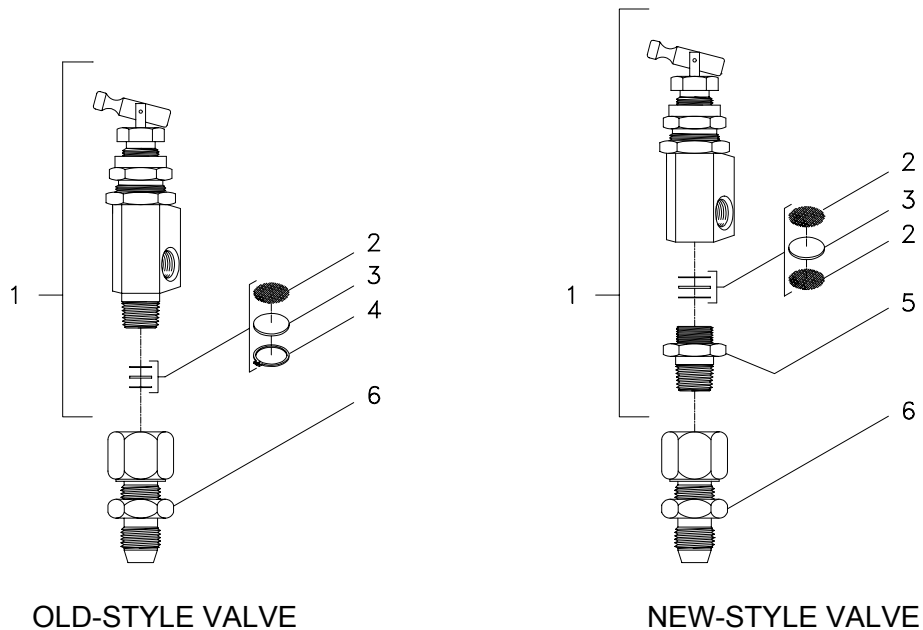

Figure 6-9. Pilot Valve (ALP-V403)
- (1) Ensure replacement valve has been cleaned in accordance with MIL-STD-1330 or other approved NAVSEA cleaning procedure for life support systems.
- (2) Wrap Teflon® tape around inlet threads on adapter end of new plug valve.
- (3) Insert taped end of new plug valve into adapter, and tighten union nut with wrench.
- (4) Pressurize system and leak test valve using NID solution prepared in accordance with paragraph 4.7.3.2. Correct leaks as necessary.
- (5) Complete reentry control report and log.
6.8.2.7 Pilot Valve (ALP-V403). Corrective maintenance for the compressor pilot valve (ALP-V403) consists of removal and replacement of the valve, as well as cleaning or replacement of the filter components. Two versions of this valve are authorized for use with the LWDS, each containing a different type of inlet and filter design. The old-style valve, which is shown on the left in Figure 6-9, features a removable filter screen (2), felt (3), and ring (4) installed in the tip of the valve inlet, which is an integral part of the valve body. The new-style valve features a filter composed of felt (3) sandwiched between two screens (2). The filter is located inside the valve body and held in place with a filter nut (5). Corrective maintenance for the filters must therefore be adapted to the style of valve that is installed on the compressor manifold. While the old-style
valves are still approved for use, they are no longer available from the manufacturer and will be automatically replaced with the new-style valve when ordering. Refer to Figure 6-7 for valve location and to Figure 7-30 for an index of replacement parts for ALP-V403, which is the only valve of its type in the system. The callouts in the following procedure refer to Figure 6-9, which depicts both an old-style and new-style pilot valve removed from the bulkhead connector (6).
- (1) Remove hose adapter from side port in pilot valve (1).
- (2) **For replacement or cleaning of old-style valve or for replacement only of new-style valve:** Remove valve (1) from bulkhead connector (6). If necessary, remove bulkhead connector from manifold first, and then remove bulkhead connector from valve. Remove all traces of Teflon® tape from threads inside bulkhead connector, and from old-style valve inlet if filter components are to be cleaned or replaced.
- (3) **For cleaning of new-style valve filter only:** Remove top portion of pilot valve (1) from filter nut (5) as shown in Figure 6-9. If necessary, remove bulkhead connector (6) from manifold first, and then remove filter nut (5) from valve body.